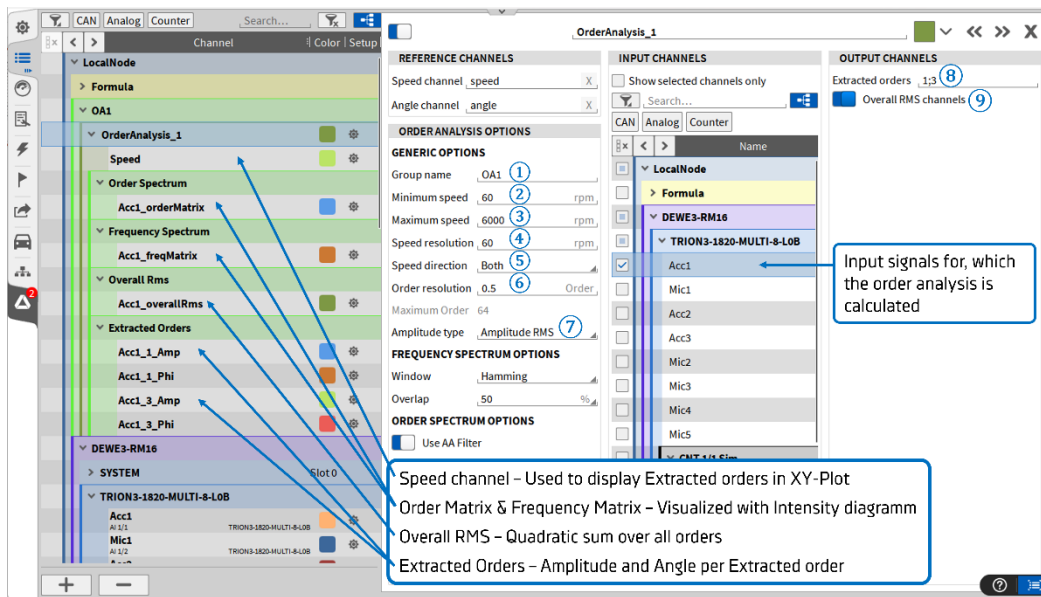

Figure 2-6: Order Analysis settings
After creating an Order Analysis the default settings can be adjusted to the measurement application: (see Figure 2-6)
- Adjust settings and add extracted orders if necessary (see Figure 2-6)